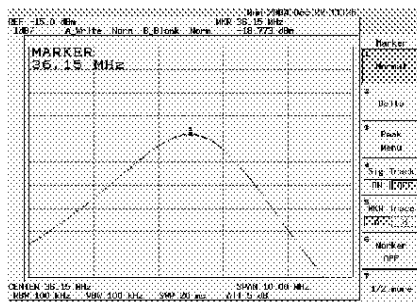

Fig. 3
- ☐ Calibrate C23, L9 to tune the equalisation cell to the middle of the intermediate frequency (Fig.3) with JP5 on and JP3 and JP4 off.